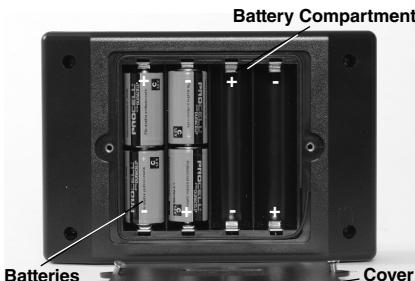

Figure 6 – Changing the Batteries (Transmitter)
- With device OFF, remove the battery compartment cover. If needed, remove batteries (Figure 6).